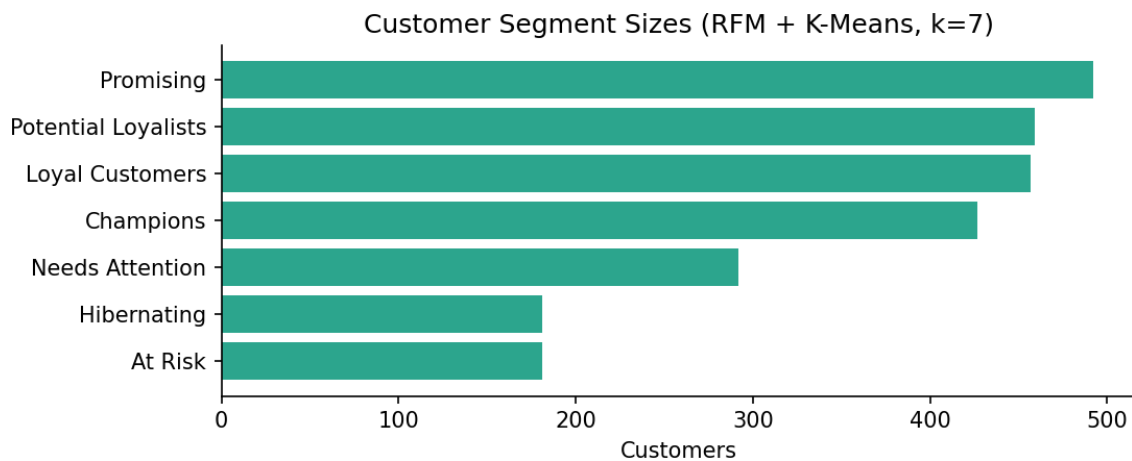

Figure 1 — Customer counts per segment.
All charts in this report (Figures 1–8) are generated directly from this project's own pipeline output — none are illustrative placeholders. Additional live, interactive versions of every chart, plus the raw data tables, are available in the Streamlit dashboard.
- Figure 1 — Customer segment sizes